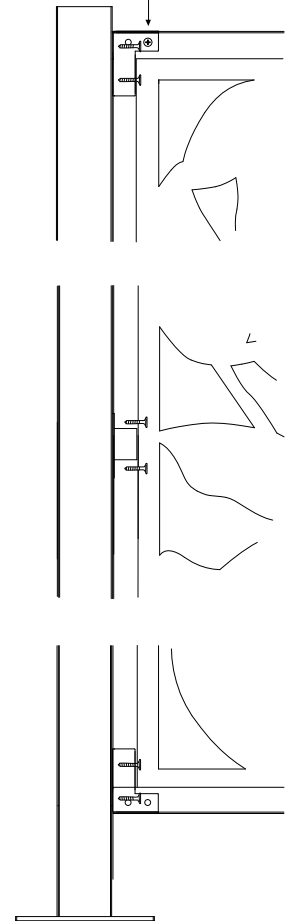

Fig 7.
- Fix the middle bracket to the 1st post then place the screen in position (see figure 7)
- Fix the 2nd middle bracket to the 2nd post, which will hold the screen in position, then fit the two top brackets, sitting the bracket over the screen frame and screw to the posts (see figure 7)